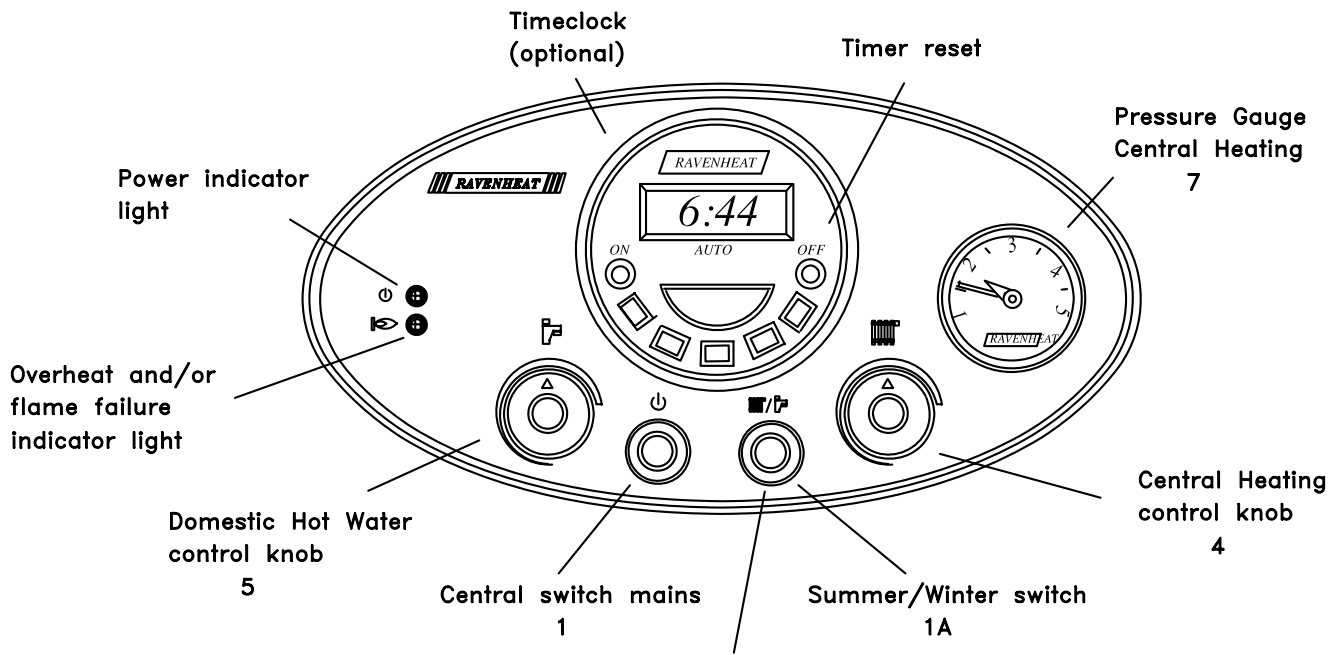

Fig. 35
- Turn main switch (fig. 35 item 1A) to winter.
- Turn off main switch 1 (fig. 35)
- Select summer/winter switch in winter position (Fig. 35).
- Turn CH control knob to maximum setting (fig. 35 item 4).
- 6.14.1** Put the appliance in operation with the (summer/winter) switch in summer position (Fig. 35).
- Open a domestic hot water tap (preferably the bath tap). Ensure cold water inlet stopcock is open and the D.H.W. control knob is set at maximum (Fig. 35 item 5).
- Select summer/winter switch on summer position (Fig. 35).
- Rotate the D.H.W. control knob to ensure it operates at its various setting (Fig. 35).
- Explain the function and the use of the summer/Winter and mains switch (Fig. 35).